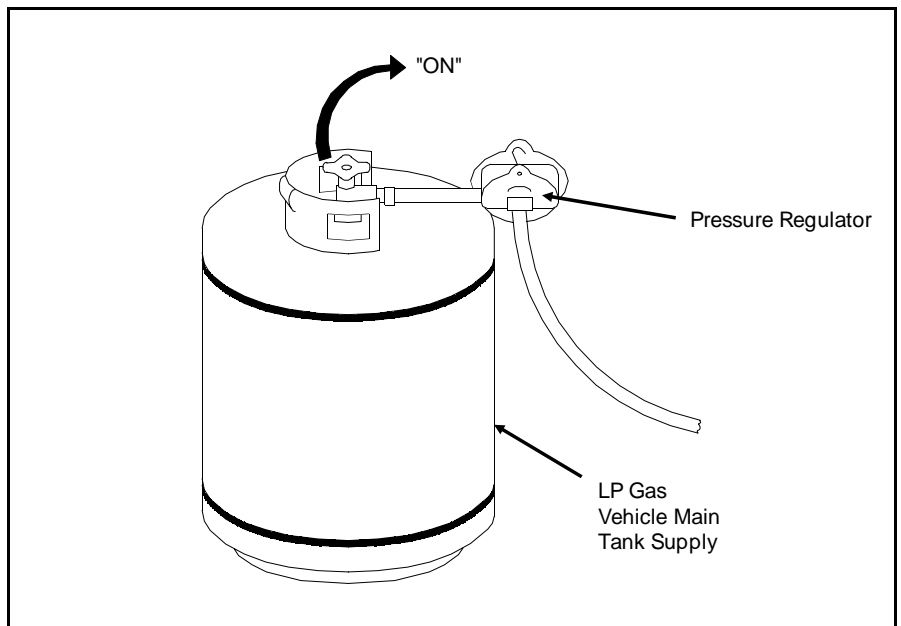

Figure 11.44 Main Gas Valve Check
19. Check that the main LP gas is turned on at the tank as shown in Figure 11.44